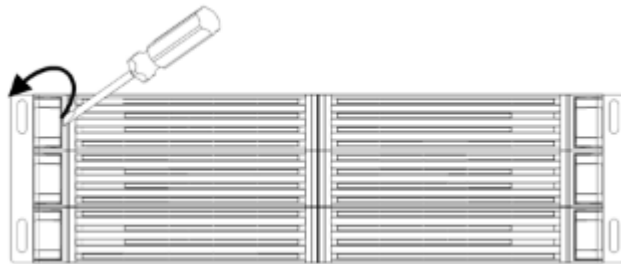

FIG. 1
9. Remove the six (6) front panel retaining screw cover plates. (FIG. 1)